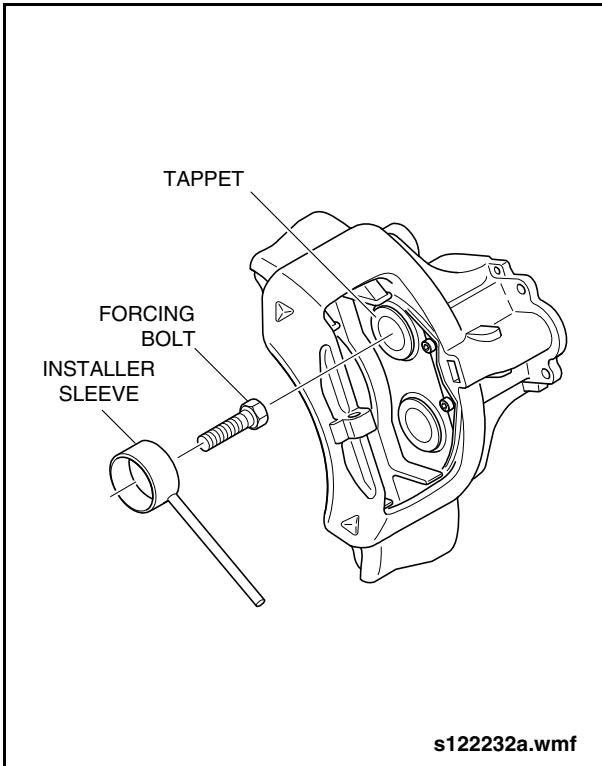

Fig. 1-73: Seating Tappet Against Stop
10. Reverse the position of the installer sleeve so that the open end is facing away from the tappet and boot assembly and the head of the forcing bolt is facing the tappet. See "Fig. 1-73: Seating Tappet Against Stop" on page 69.